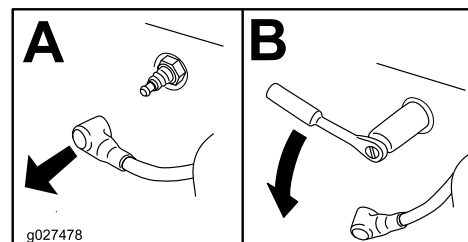

Figure 38
3. Locate and remove the spark plug(s) as shown in Figure 38.